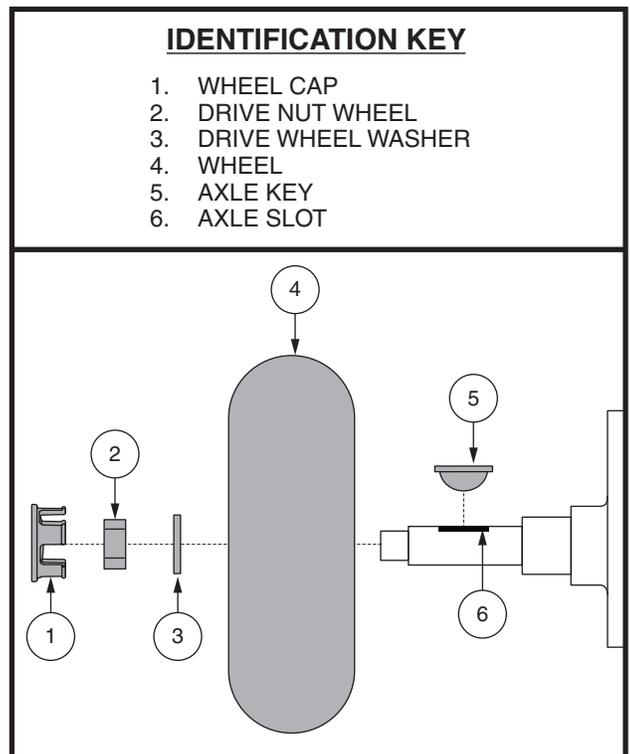

Figure 29. Wheel Removal
3. Remove the wheel cap, drive wheel nut and washer from the axle. See figure 29.
4. Remove the drive wheel nut and washer from the axle. **See figure 29.**